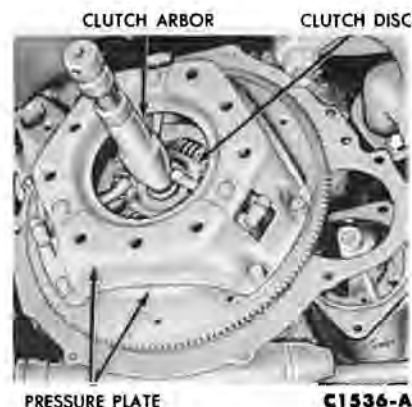

FIG. 4—Installing Clutch Disc
2. Align the clutch disc with a clutch arbor as shown in Fig. 4 and